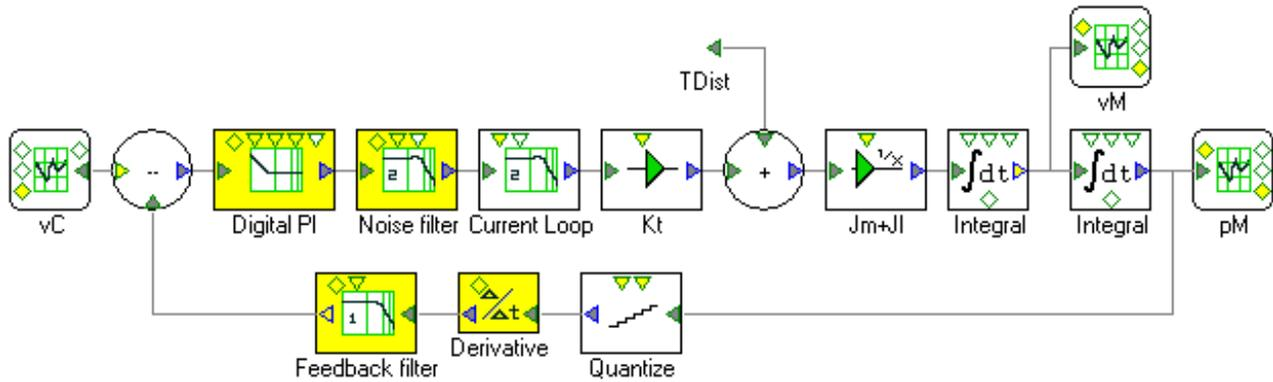

Figure 1: Model Of Velocity Control System
Figure 1 shows a model of a velocity control system. The velocity control algorithm is a PI (proportional-integral) common in industry today. There are two filters, one in the forward path and one in the feedback path. These filters are adjusted reduce the effects of resolution noise as much as possible for a given set of servo (PI) gains. The motor is shown as K_T/J where J is the total inertia of the motor and load. The effects of resolution are realized by quantizing the position feedback device much as a physical encoder does. A digital derivative is used to calculate velocity as is also common in industry. The torque disturbance enters after torque has been produced by the drive ($K_T * \text{“Current Loop” output}$).